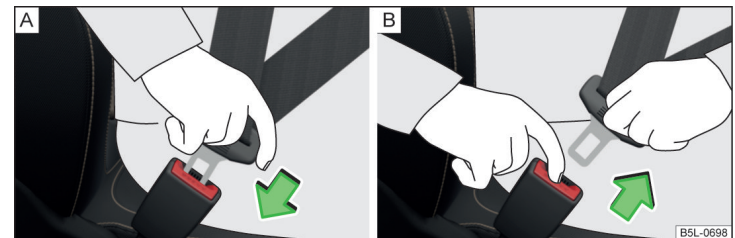

Fig. 6 Fastening/unfastening the seat belt
- Insert the lock tongue into the belt buckle for the seat » Fig. 6 - [A] until it audibly clicks into place.
- Hold the lock tongue and press the red button in the belt buckle » Fig. 6 - [B]. The lock tongue pops out.